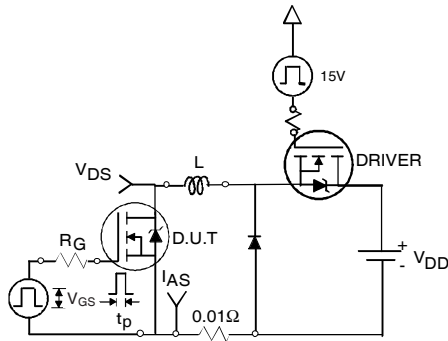

Fig 12a. Unclamped Inductive Test Circuit
- ③ Pulse width $\leq 1.0ms$; duty cycle $\leq 2\%$.
- ④ $C_{oss \text{ eff.}}$ is a fixed capacitance that gives the same charging time as C_{oss} while V_{DS} is rising from 0 to 80% V_{DSS} .
- ⑤ Limited by T_{Jmax} ; see Fig.12a, 12b, 15, 16 for typical repetitive avalanche performance.
- ⑥ This value determined from sample failure population. 100% tested to this value in production.
- ⑦ This is applied to D²Pak, when mounted on 1" square PCB (FR-4 or G-10 Material). For recommended footprint and soldering techniques refer to application note #AN-994.
- ⑧ R_θ is measured at T_J of approximately 90°C .
3. Equation below based on circuit and waveforms shown in Figures 12a, 12b.